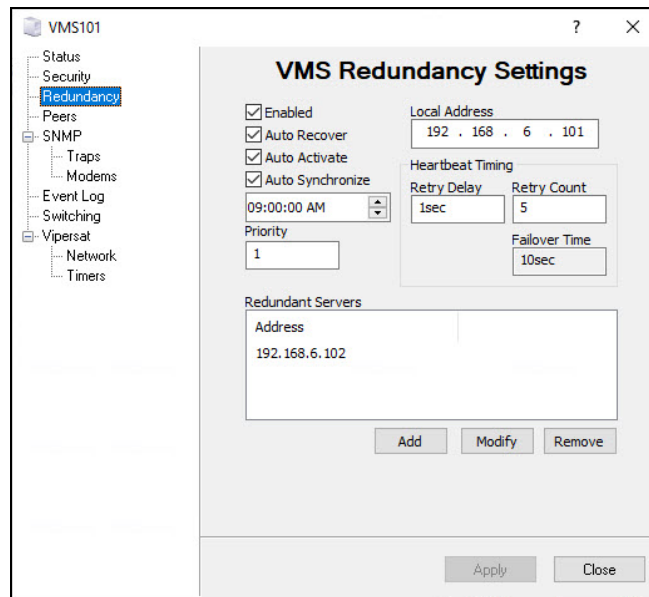

Figure C-5 VMS Server Properties, Redundancy Tab
- Click on the **Redundancy** tab to configure the redundancy settings for this server (figure C-5).